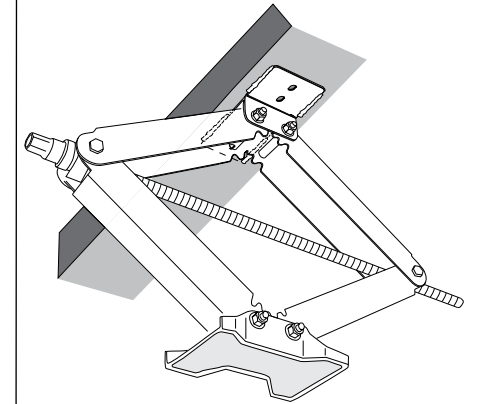

Figure 2
- After determining your location, weld each mounting plate to the vehicle frame with four 1" long welds, as shown. (Figure 2)